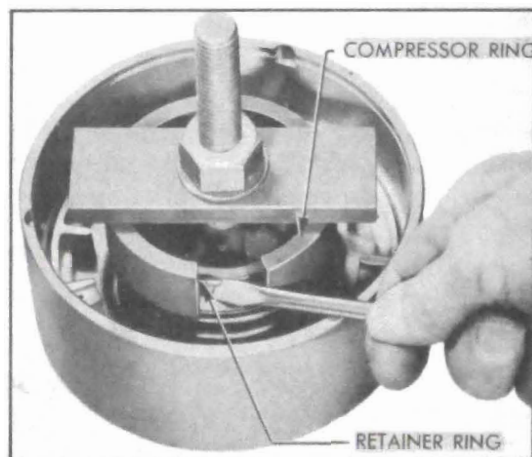

Figure 5-68—Using Clutch Spring Compressor J 2590
3. Install Clutch Spring Compressor J 2590 in assembled drum, placing the slot in compressor ring over the ends of spring seat retaining ring. Compress clutch spring sufficiently to remove the retaining ring. See figure 5-68.